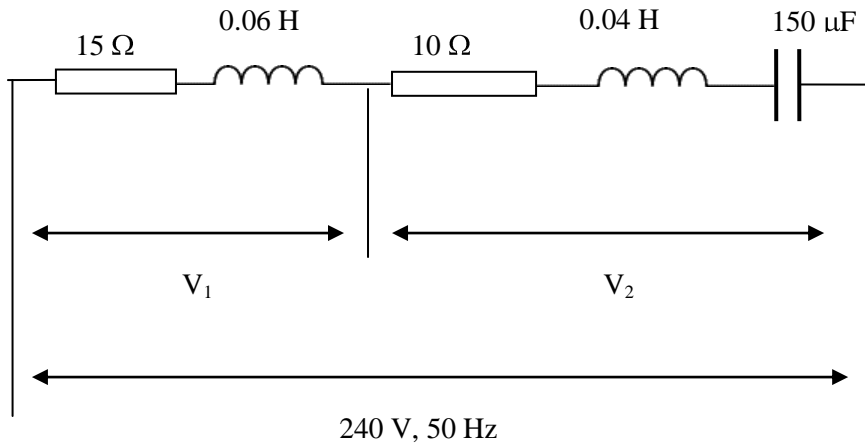

Fig Q4
4. For the circuit shown in Fig Q4, calculate EACH of the following:
- (a) the supply current; (6)
- (b) the power factor; (2)
- (c) the voltages V_1 and V_2 and their respective phase angles to the supply current. (8)